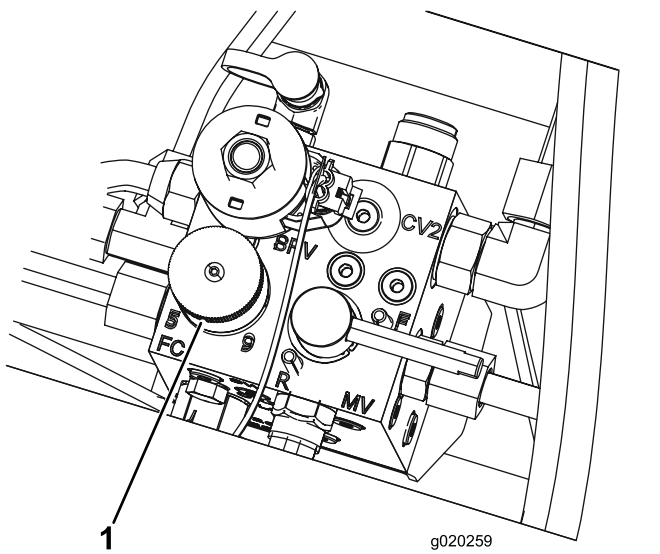

Figure 33
4. To set the reel speed, rotate the knob (Figure 33) until the indicator arrow is in line with the number designating the desired setting.